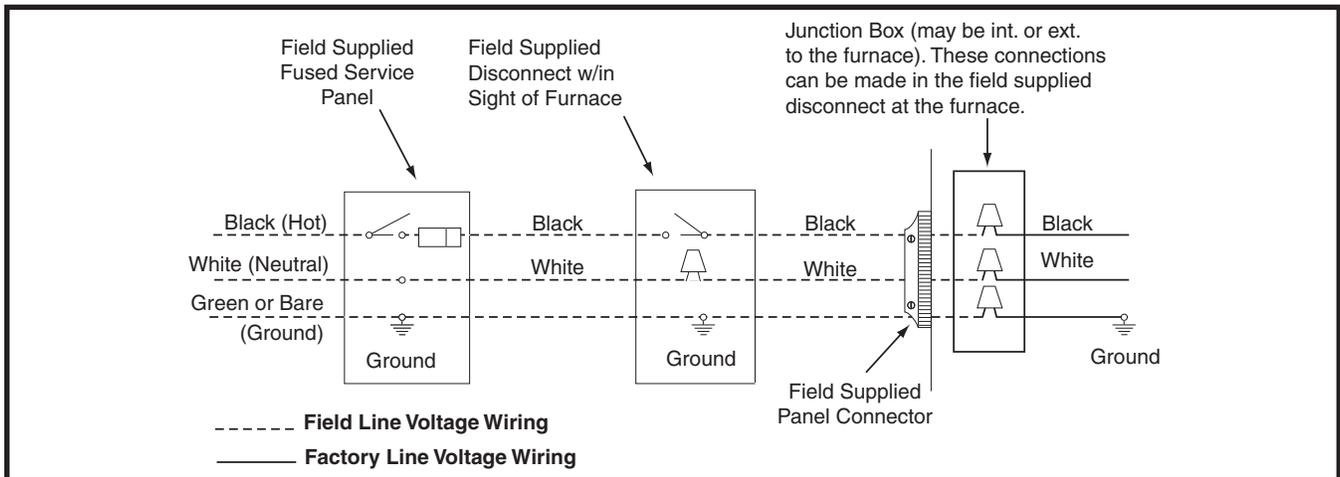

Figure 14. Line Voltage Field Wiring
- An electrical disconnect must be installed readily accessible from and located within sight of the furnace. See Figure 14 or the wiring diagram label inside of the control door. Any other wiring methods must be acceptable to authority having jurisdiction.